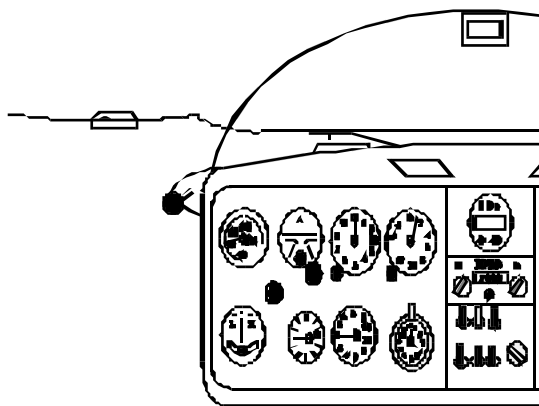

Fig 11. The Landing or Touch down attitude.
- b. **Hold off.** This is a period where the aircraft is losing airspeed because it is gliding level just above the ground. If the attitude remained the same then the aircraft would sink toward the ground as the reduction in speed caused a reduction in lift. To prevent the aircraft touching down early we increase the angle of attack of the wings by applying a back pressure on the control column. This progressively pitches the nose of the aircraft up until the landing attitude is reached. Fig 11 shows a landing attitude although, depending on your sitting height, this will vary from one individual to another. The correct picture for the landing attitude is that which you see whilst taxiing. Remember that the airbrakes tend to close as airspeed reduces so it is vital to hold the airbrake lever firmly.